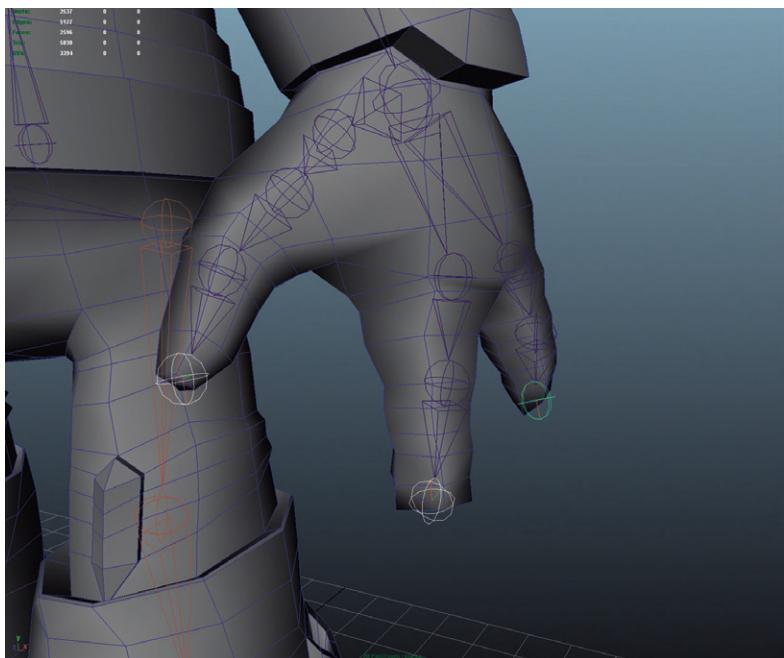

FIG 8.18 Delete these joints.
Step 27: Select the joints on the end of each of the fingers and delete them (the joints to delete are shown in Fig. 8.18).